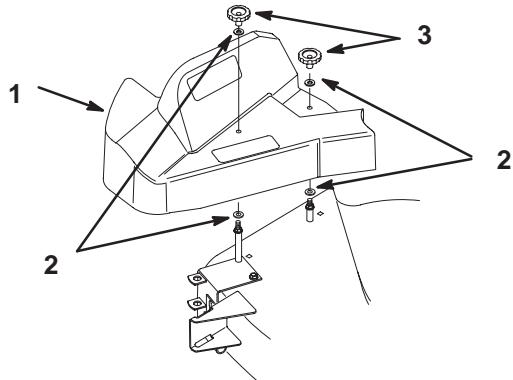

Figure 26
1. Remove the blower belt cover by removing the 2 knobs and 4 washers (Fig. 26). Retain all parts for future installation.